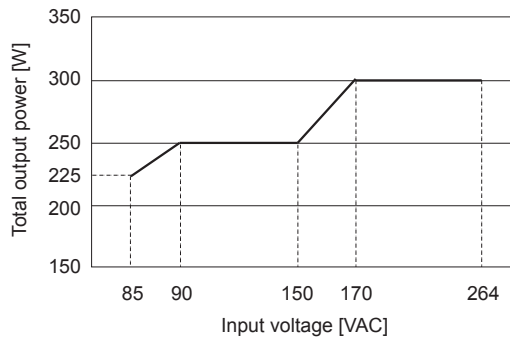

Fig. 4.7 Derating curve for input voltage (ACE300F)
■ The derating curve with respect to input voltage is shown in Figs. 4.7 to 4.10.